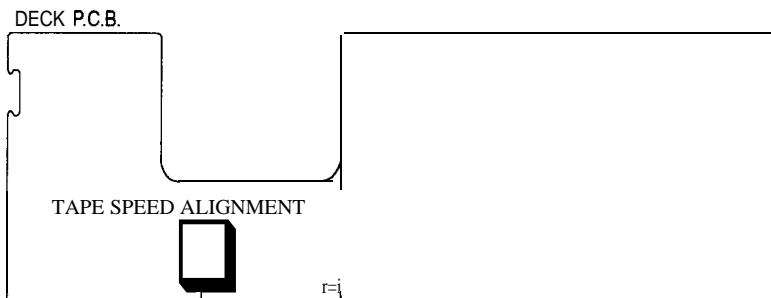

Fig. 5
4. Adjust VR601 for the output value shown in Fig. 5.